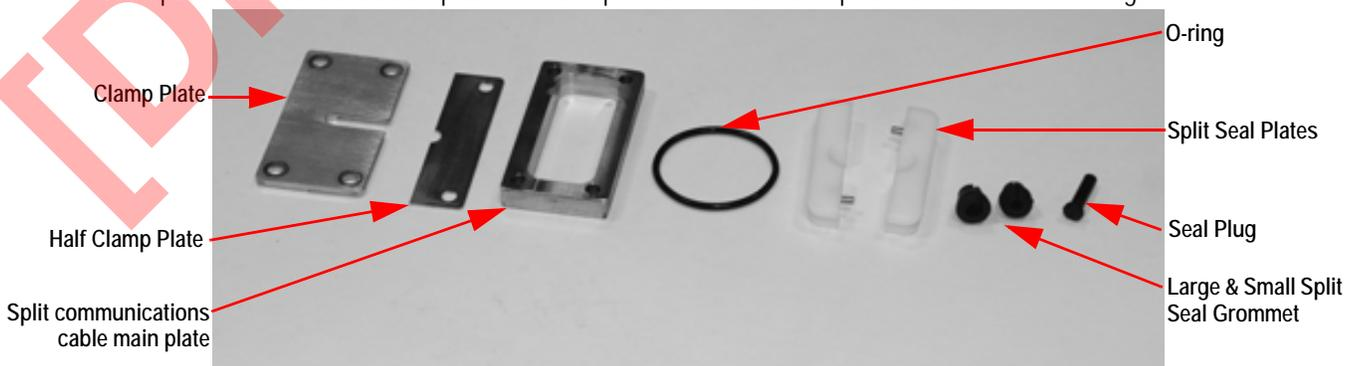

Figure 1-6. Component Pieces
4. The split communications cable plate is made up of several individual pieces that are shown in Figure 1-6.